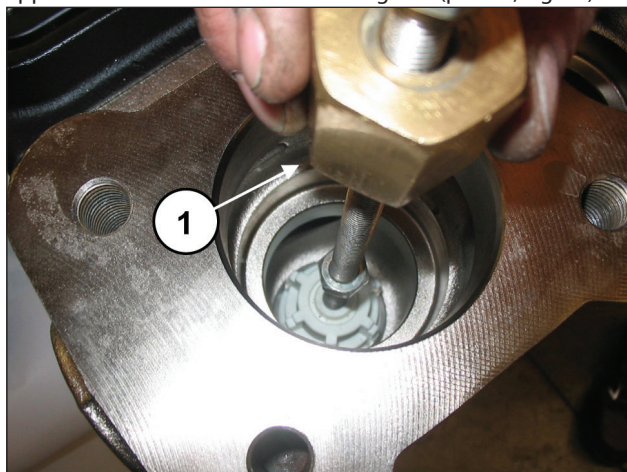

Fig. 94
Extract the suction valve unit with an extractor hammer to be applied on the M10 hole of the valve guide (pos. ①, Fig. 94).